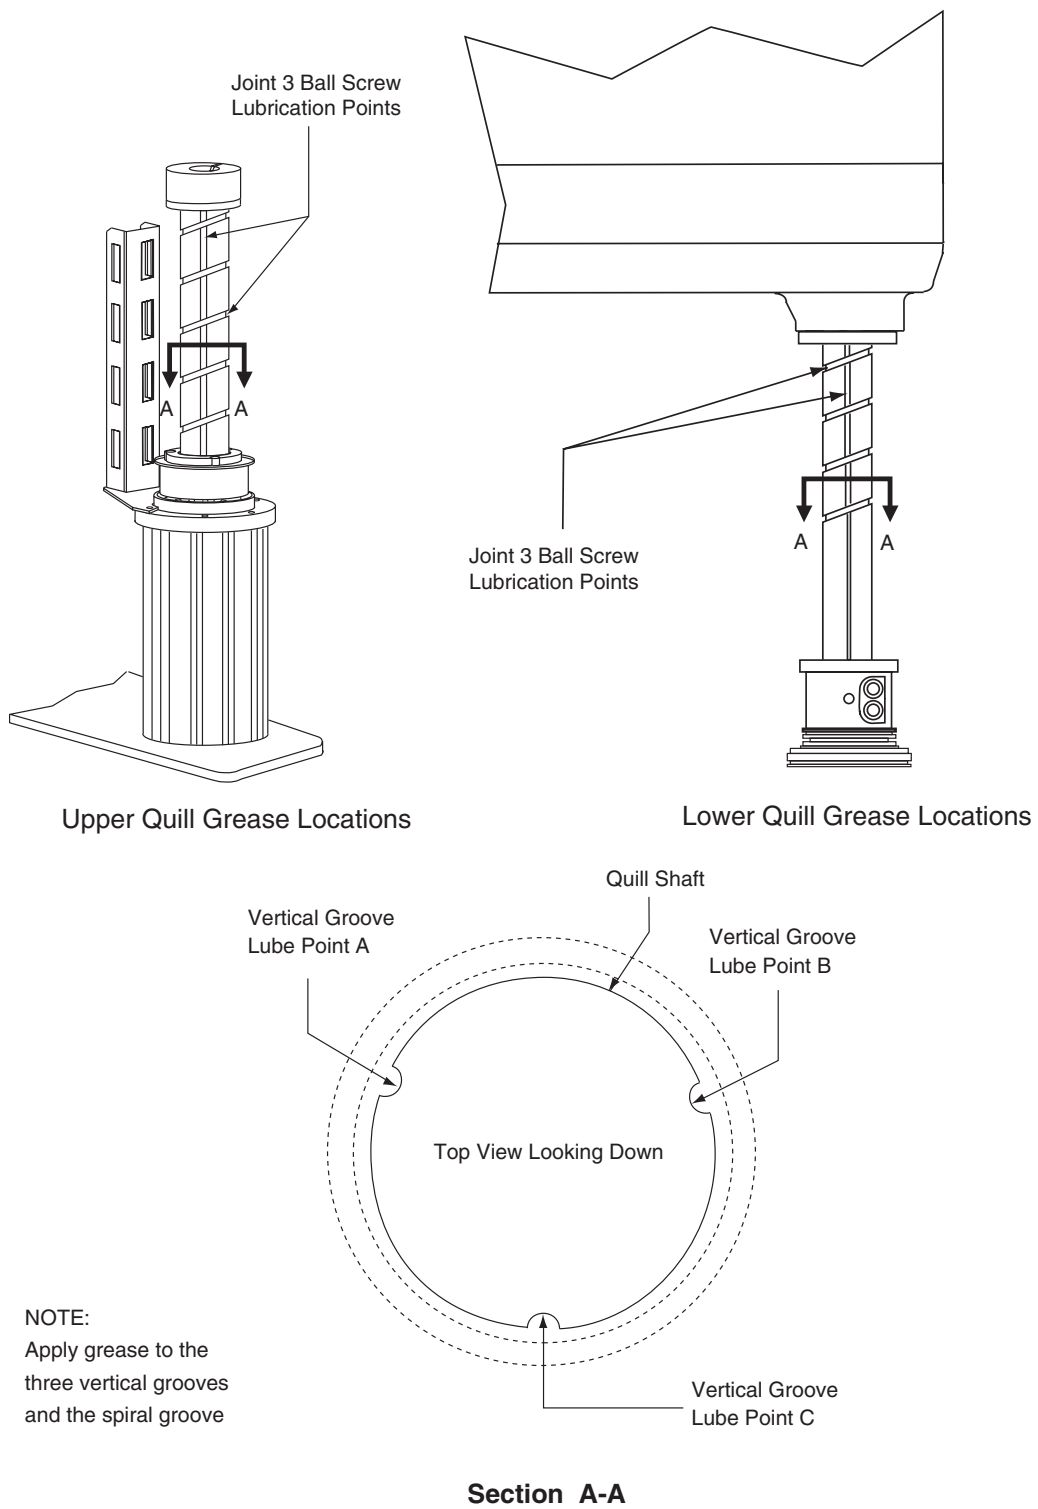

Figure 8-1. Lubrication of Joint 3 Quill
4. Using a syringe, apply a small bead of grease to the Joint 3 ball screw grooves (see Figure 8-1 on page 150).